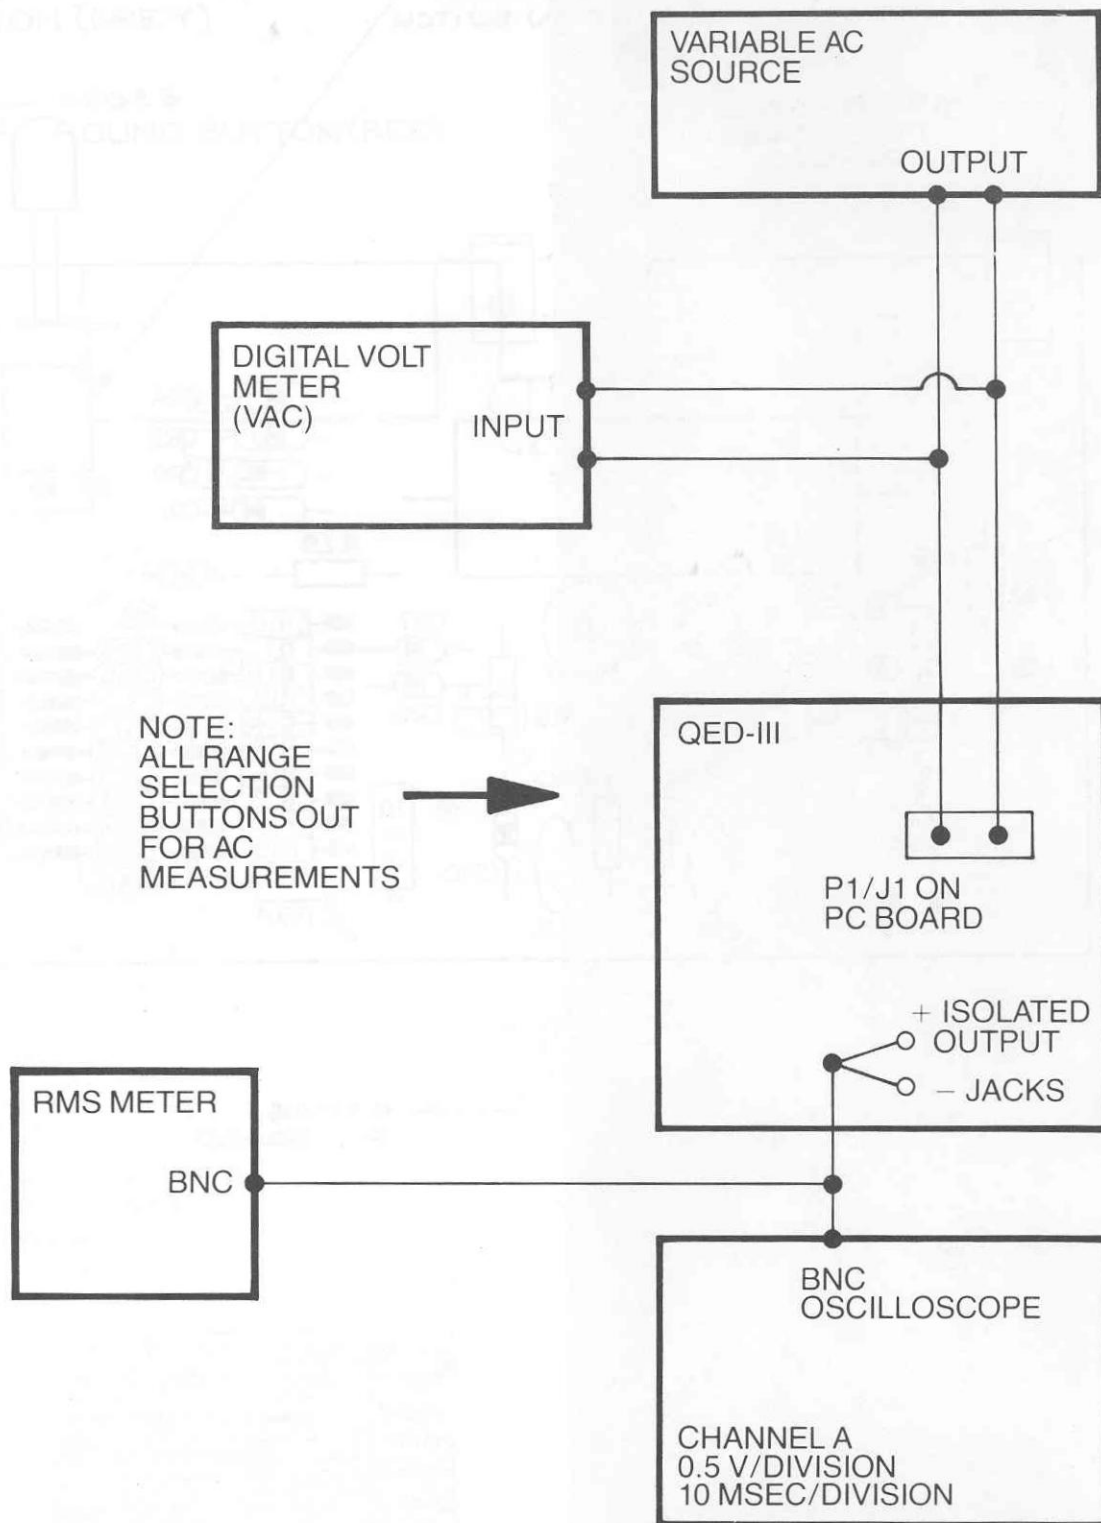

Figure 6.2.2-1. Setup for opto-isolated calibration
1. Remove the connectors on the 10-pin header (P1/J1) on the main printed circuit board (see Figure 3.2.2-1 for location of the header). See Figure 6.2.2-1 for isolated output calibration equipment setup.